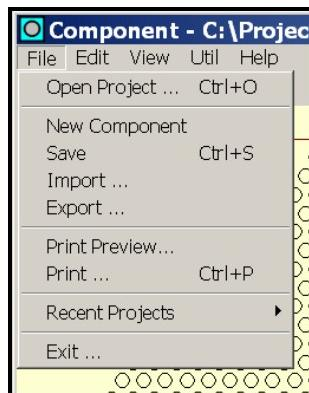

Figure 3. File Menu
As shown in Figure 3, the **File** menu contains nine (9) choices. Each item is discussed below.